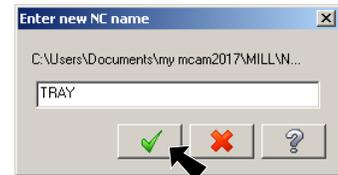

Fig. 58
Step 2. Click OK  in the NC name dialog, **Fig. 58.**